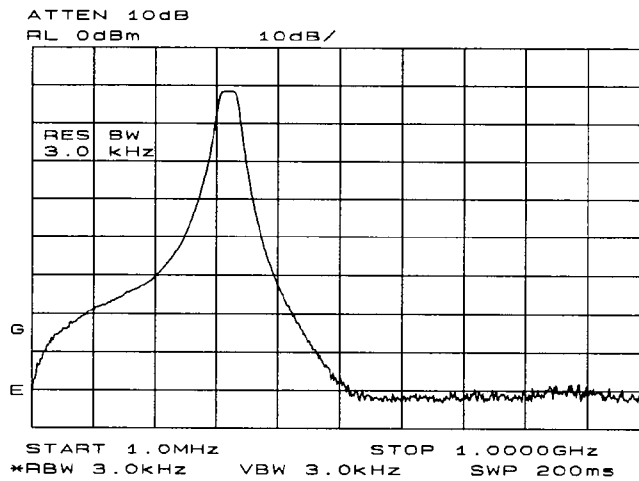

Figure 3-19. Decrease the resolution bandwidth to improve sensitivity.
4. Decrease the resolution bandwidth to increase sensitivity, and narrow the video bandwidth to smooth the noise. In Figure 3-19, the resolution bandwidth has been decreased to 3 kHz.